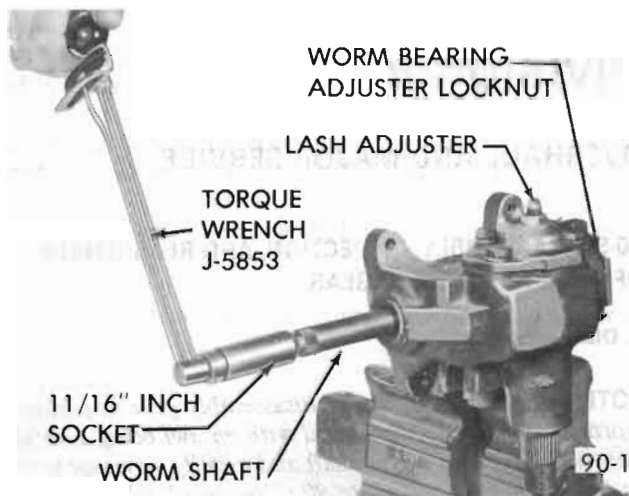

Figure 90-3 Checking Adjustments on Bench
2. Attach inch-pound torque wrench (J-5853) to worm shaft and rotate shaft to extreme right or left position. See Figure 90-3.